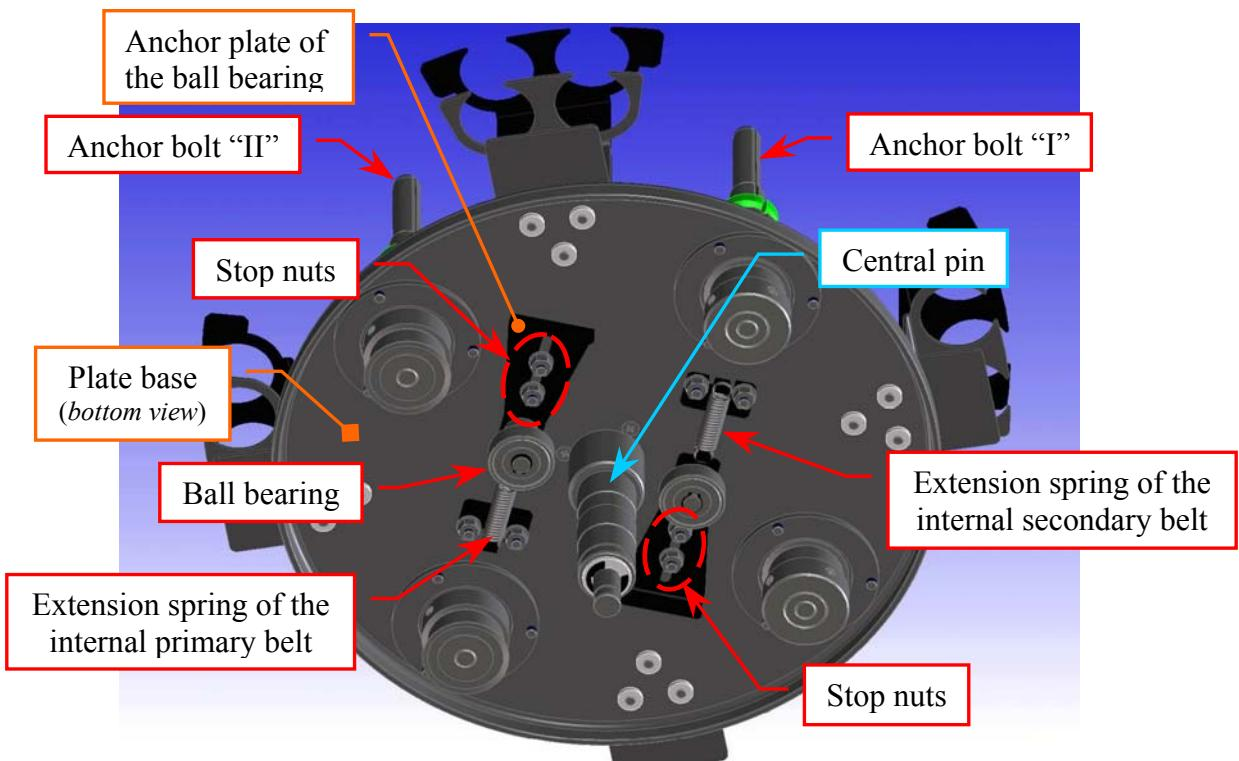

Fig. 81 – The two extension springs of the internal belts
11. Loosen the two stop nuts of the anchor plate of the ball bearing relative to the internal primary belt, push the ball bearing until to obtain a sizable reduction in tension of the belt, then tighten one of two stop nuts (**Fig. 81**).
12. Loosen the two stop nuts of the anchor plate of the ball bearing relative to the internal secondary belt, push the ball bearing until to obtain a sizable reduction in tension of the belt, then tighten one of two stop nuts (**Fig. 81**).
16. Loosen the stop nut of the anchor plate of the ball bearing relative to the internal secondary belt, leave free the ball bearing in order to obtain the right tension of the belt by means of the extension spring, then tighten the two stop nuts (**Fig. 81**).
22. Loosen the stop nut of the anchor plate of the ball bearing relative to the internal primary belt, leave free the ball bearing in order to obtain the right tension of the belt by means of the extension spring, then tighten the two stop nuts (**Fig. 81**).